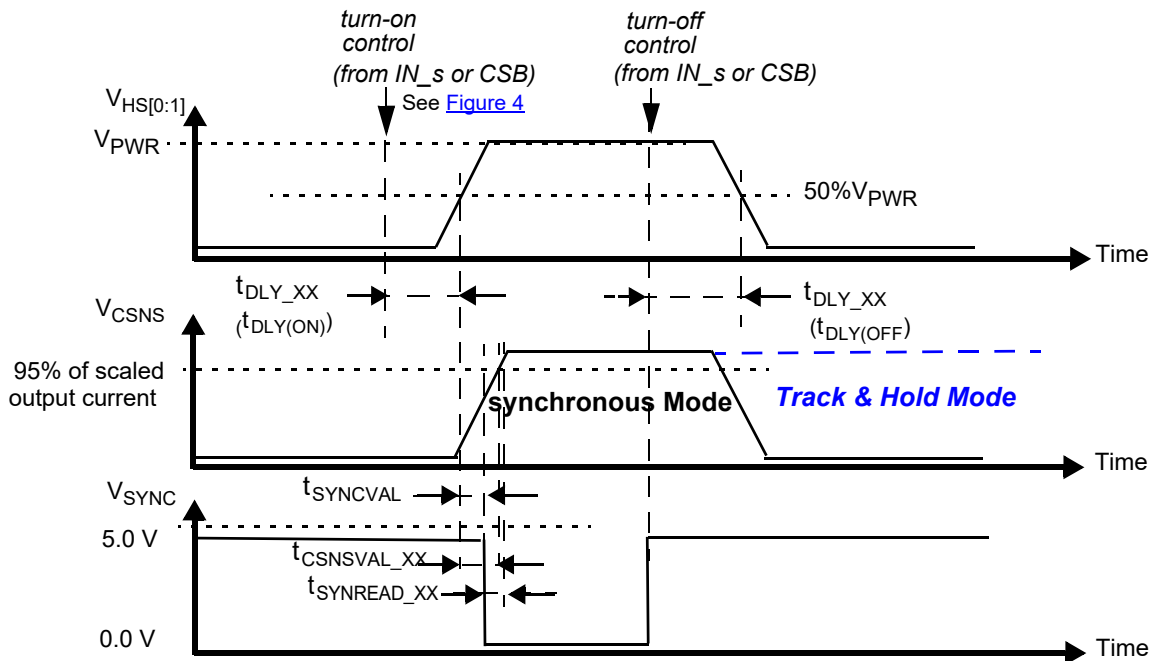

Figure 9. Synchronous and track-and-hold current sensing modes: associated delay and settling time
- Time required to switch off the channel after detection of overtemperature (OT), overcurrent (OC), SC or UV error (time measured between start of the negative edge on the FSB pin and the falling edge on the output voltage until $V(\text{HS}[0:1]) = 50\%$ of V_{PWR}).
- Settling time ($= t_{CSNSVAL_XX}$), SYNC output signal delay ($= t_{SYNCVAL_XX}$) and Read-out delay ($= t_{SYNREAD_XX}$) are defined for a stepped load current ($100\text{ mA} < I(\text{LOAD}) < I_{OCLX_A}$ FOR $\text{CSNS_RATIO_S} = 1$, AND $300\text{ mA} < I(\text{LOAD}) < I_{OCLX_A_0}$ FOR $\text{CSNS_RATIO_S} = 0$). See Figure 9 and Output current monitoring \(CSNS\).
The CS pin allows independent current monitoring of channel 0 or channel 1 up to the steady-state overcurrent threshold. It can also be used to sense the device temperature. The different functions are selected by setting bits CSNS1_en and CSNS0_en to the appropriate value (Table 23). When the CSNS pin is sensed during switch-off in the (optional) Track & Hold mode (see Figure 9), it outputs the scaled value of the load current as it was just before turn-Off. When several devices share the same pull-down resistor, the CSNS pins of devices the current of which is not monitored must be tri-stated. This is accomplished by setting CSNS0_en = 0 and CSNS1_en = 0 in the GCR register (Table 10). Settling time ($t_{CSNSVAL_XX}$) is defined as the time between the instant at the middle of the output voltage's rising edge ($HS[0:1] = 50\%$ of V_{PWR}), and the instant at which the voltage on the CSNS-pin has settled to $\pm 5.0\%$ of its final value. Anytime an overcurrent window is active, the CSNS pin is disabled (see Overcurrent detection on resistive and inductive loads). The current and temperature sensing functions are unavailable in Fail-safe mode and in Normal mode when operating without the V_{DD} supply voltage. In order to generate a voltage output, a pull-down resistor is required ($R(CSNS)=1.0$ k Ω typ. and $470 < R(CSNS) < 10$ k). When the current sense resistor connected to the CSNS pin is disconnected, the CSNS voltage is clamped to $V_{CL(CSNS)}$. The CSNS pin can source currents up to about 5.6 mA.
To synchronize current sensing with an external process, the SYNC signal can be connected to a digital input of an external MCU. SYNC is asserted logic low when the current sense signal is accurate and ready to be read. The current sense signal on the CSNS pin has the specified accuracy $t_{SYNCREAD_XX}$ seconds after the falling edge on the SYNC pin (Figure 9) and remains valid until a rising edge is generated. The rising edge that is generated by the SYNC pin at the turn-OFF instant (internal or external) may also be used to implement synchronization with the external MCU. Parameter $t_{SYNCVAL_XX}$ is defined as the time between the instant at the middle of the output-voltage rising edge ($HS[0:1] = 50\%$ of V_{PWR}), and the instant at which the voltage on the SYNC-pin drops below 0.4 V (V_{SOL}). The SYNC pins of different devices can be connected together to save μ -controller input channels. However, in this configuration, the CSNS function of only one device should be active at a time. Otherwise, the MCU does not determine the origin of the SYNC signal. The SYNC pin is open drain and requires an external pull-up resistor to VDD.